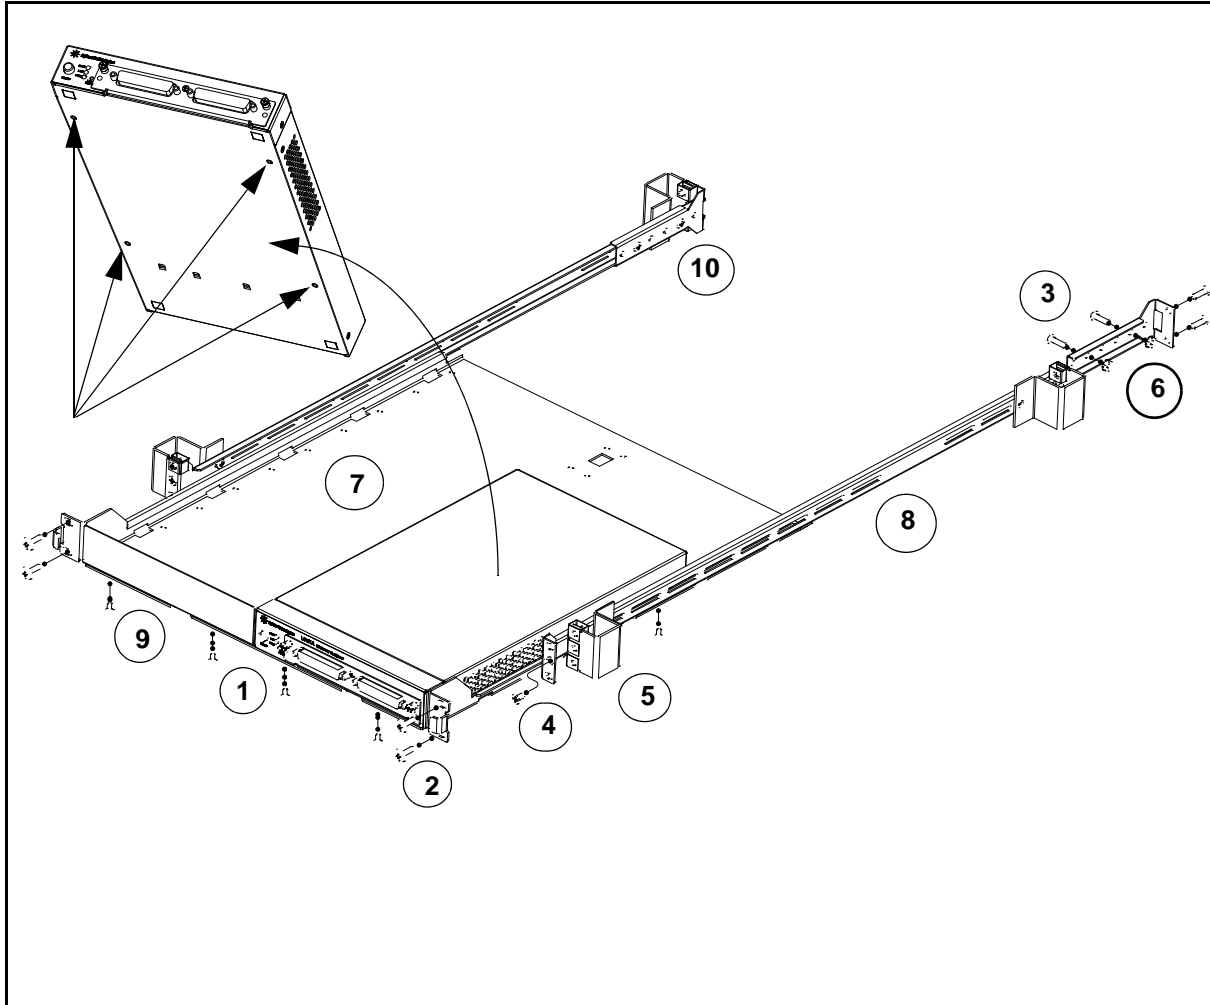

Figure 1-1. Y1160A Instrument Rack Mount Kit (L4400 Series).
Figure 1-1 is a composite drawing of the Y1160A sliding shelf rack mount kit. The drawing shows the location/usage of the hardware items listed in Table 1-2.
3. Note the location of the four mounting holes on the bottom of the instrument (Figure 1-1). Set the carrier on the shelf, and align the mounting holes with the holes on the shelf. Insert four M4x8 flat head screws (item 1) upward through the bottom of the shelf and into the carrier mounting holes.